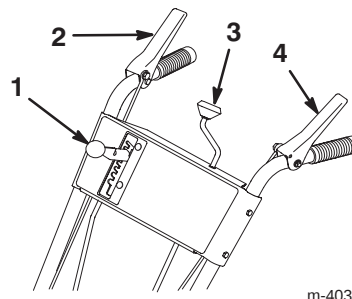

Figure 7
2. Move the speed selector (Fig. 7) on the control panel to the *R₂* (Reverse) position.